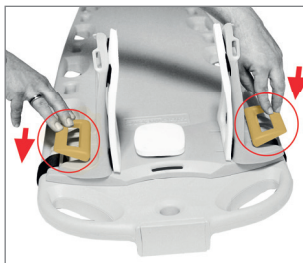

Figure 2b
4. To arrest, push both handles downwards. (Figure 2b). For possible adjustments, pull the